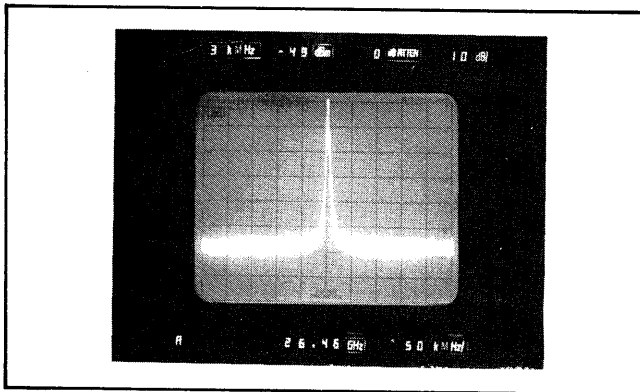

Figure 4-20. Analyzer Display, with 30 dB Signal-to-Noise Ratio
- (d) The display should resemble Figure 4-20.